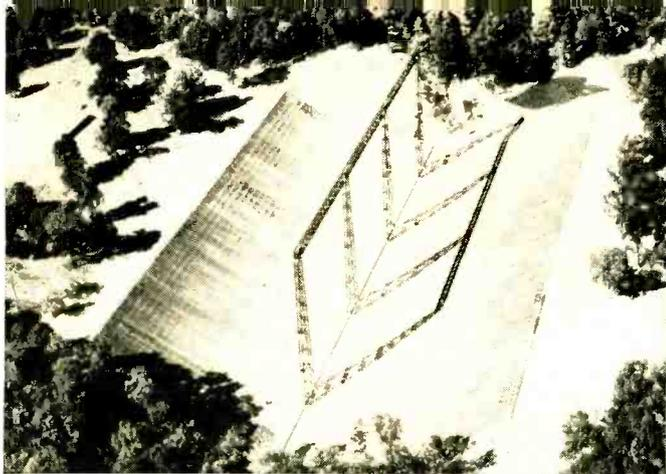

Fig. 4. The University of Illinois parabolic cylinder antenna. This particular radio telescope uses electronic beam scanning.
**University of Illinois Cylindrical Reflector:** Another large, low-cost radio telescope having good surface accuracy (hence, good resolution) and very low side lobes is the 600-foot parabolic cylinder designed and developed at the University of Illinois (see Fig. 4). The huge cylindrical section, 600 feet long by 400 feet wide, is supported by the earth. The feed for this radio telescope consists of an array of 276 non-uniformly spaced conical spirals lying along the focal line and supported by a tower structure 450 feet long and 153 feet high. The antenna is electronically steered by adjusting the relative phase of the conical spiral elements. The sky coverage of this telescope is from +10 to +70 degrees above the equatorial plane, its operating frequency is 611 mc., and its beamwidth is a narrow one-third degree. This antenna,